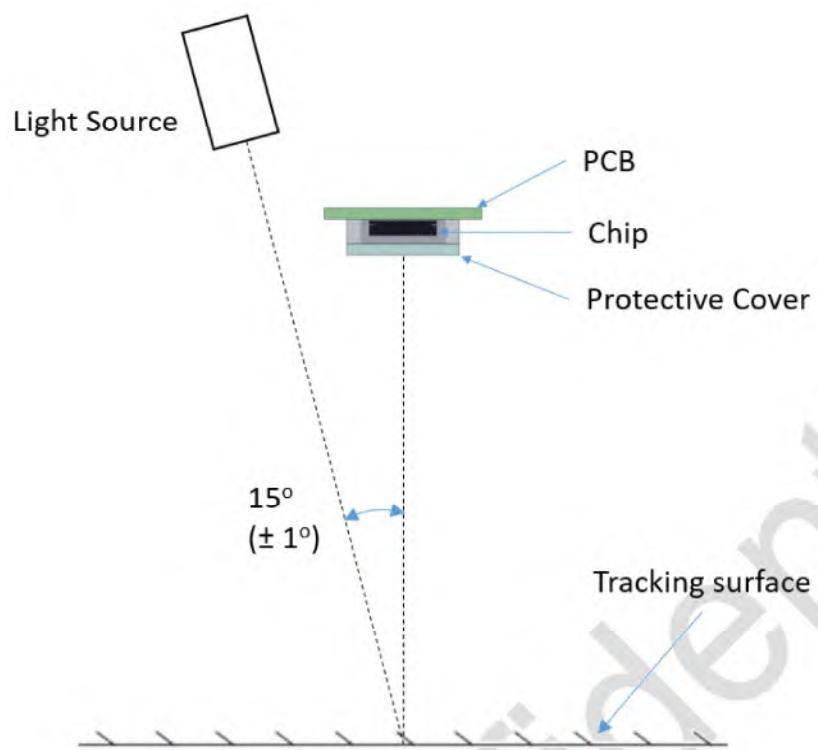

Figure 5. Test setup under bright ambient light
3. The chip can operate under bright ambient light of up to 5k lux, warm white (refer to Figure 5), but the RV may increase up to 10% on certain surfaces, for example, white paper.